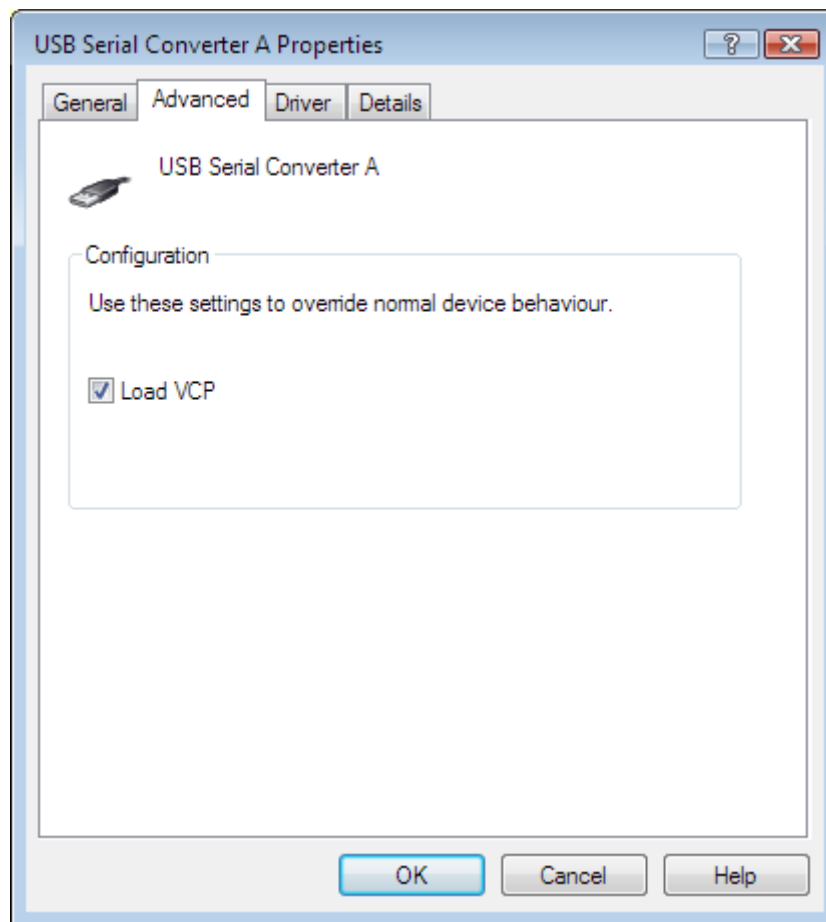

Figure 1-5 USB Serial Converter Properties
- III. Double-click on **each** USB Serial Converter entry and under the *General* tab, confirm that the manufacturer is FTDI. Then, under the *Advanced* tab, make sure the *Load VCP* checkbox is ticked (see Figure 1-5). If the checkbox isn't ticked, you will need to tick for each Serial converter and then unplug and re-insert the Dock.